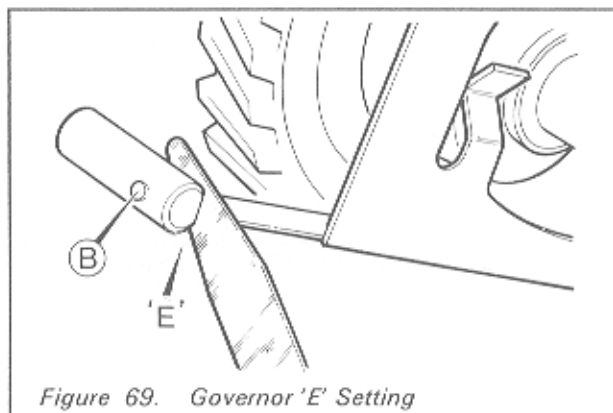

Figure 69. Governor 'E' Setting
1. Adjustment 'E', as shown in Figure 69, should be checked and if necessary shims added or removed to obtain a clearance of 0.12-0.25mm (0.005-0.010in).